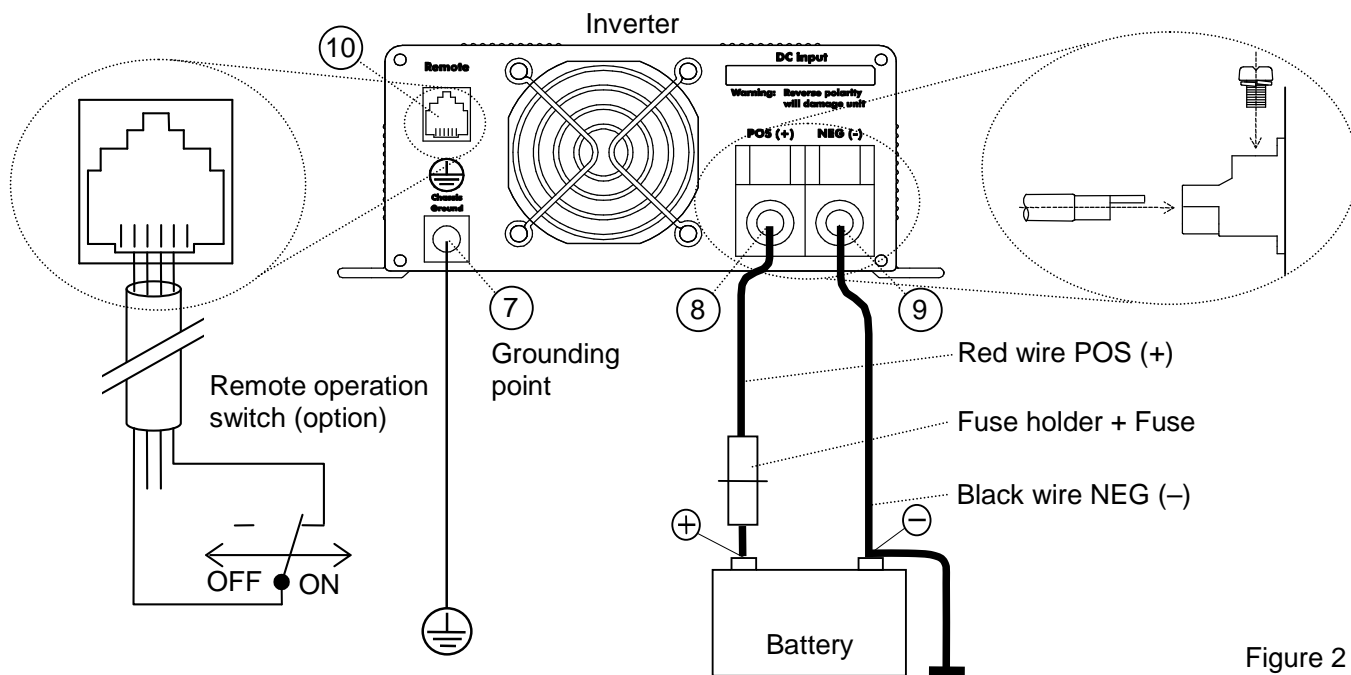

Figure 2
- Connect DC wiring as shown in figure 2: the black terminal (9) NEG (–) to the negative (–) pole of the power source / battery, the red terminal (8) POS (+) to the positive (+) pole of the power source/ battery. Integrate a DC fuse holder in the positive wiring, but do not place the fuse yet. Assemble the DC wiring exactly as indicated. Do not place anything between the ring terminal and the terminal surface. Make sure that all DC connections are tight. Recommended torque: 11.7-13 Nm / 104-115 InLbs
- Chassis ground: Use a cable AWG8 / 6 mm² to connect the CHASSIS GROUND terminal (7) to the central ground.
- Remote operation switch (option). If you want to operate the Inverter on a remote location, you can install a switch as indicated in figure 2. When the contact is closed, the Inverter is switched on.